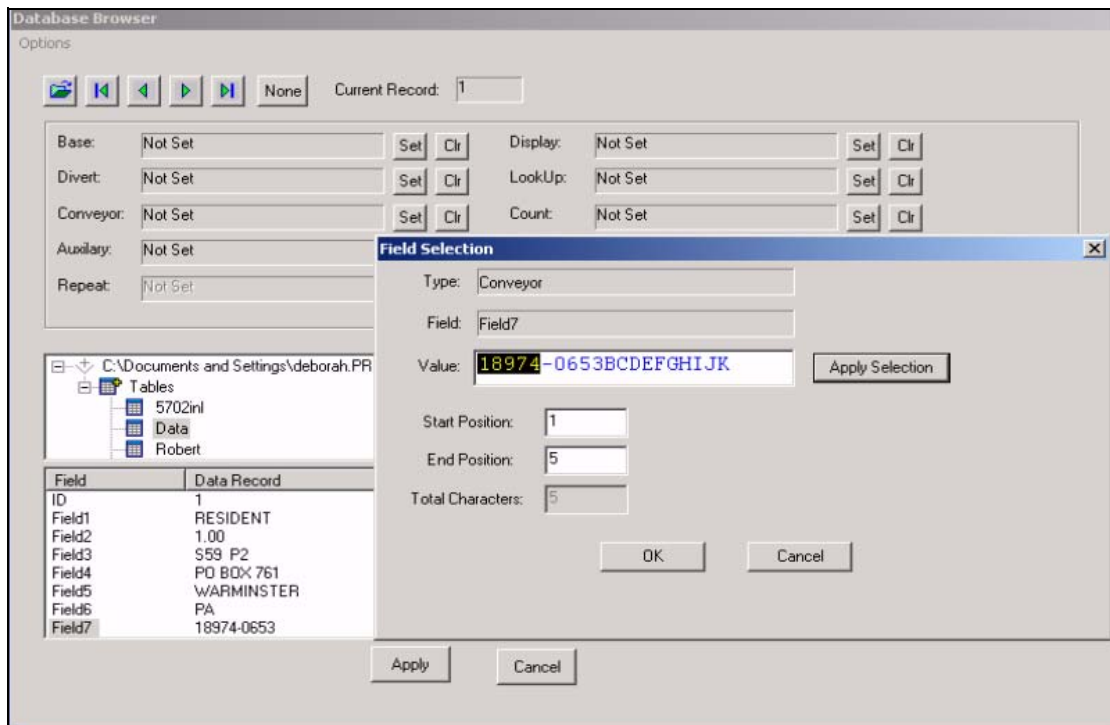

Figure 4-21: Setting Sort Breaks
- 2 Select the device where break action occurs and click *Set*. A screen appears where the user sets the *Field Selection* characters (see Figure 4-21).